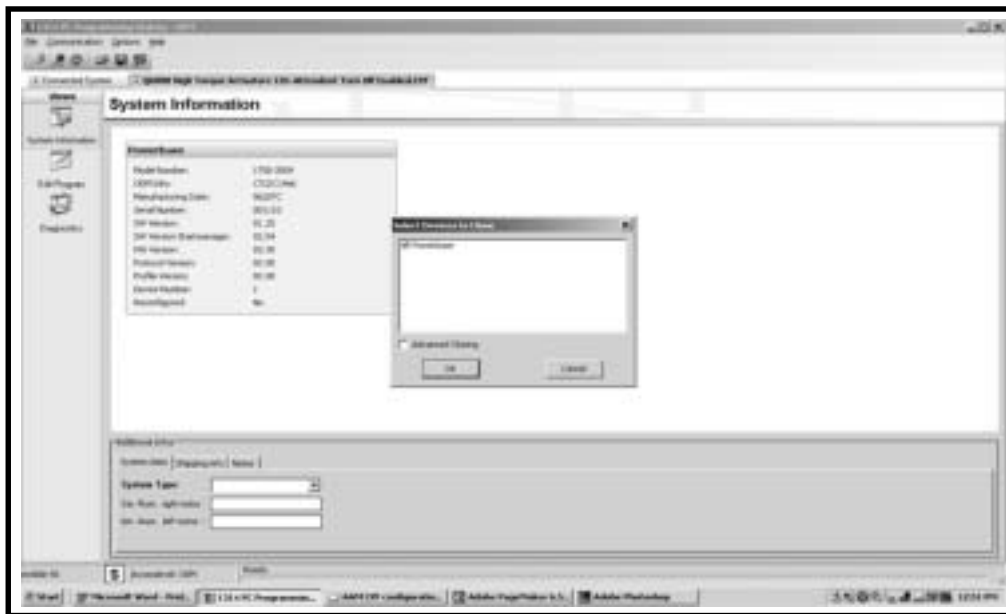

Figure 51. PCPS Program Selection Display Screen
21. Go to Communication > Save to Connected System or press the F6 key to display the Select Devices To Clone screen. See figure 51.